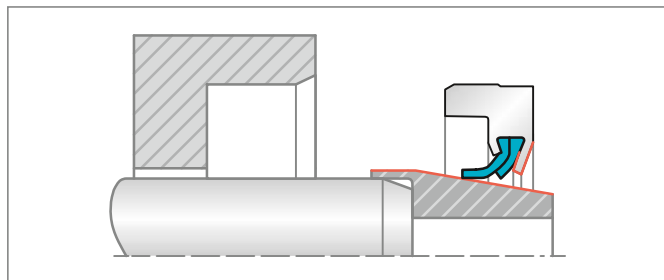

Figure 116: Ensure there is sufficient clearance between the support leg and the assembly cone
- Be aware that the extended metal pressure support behind the lip arrangement of the Type C design has a close clearance to the shaft (Figure 116). It is advised that the inside diameter of this support is measured before manufacturing the assembly cone to ensure that there is sufficient clearance.